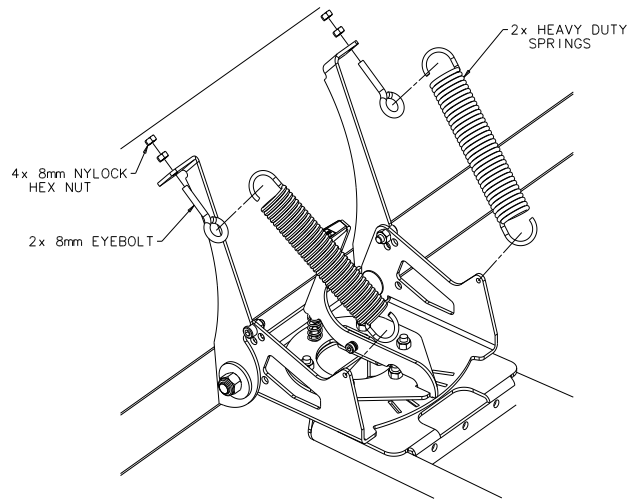

Figure 4 Assemble Plow Springs
5. Assemble the plow springs as shown in figure 4. Slide a 8mm dia eyebolt up through the small hole located on the center bent flange on the plow blade. Terminate the eyebolt with a 8mm dia nut. Hook the heavy-duty plow spring onto the rear of the side flange of the plow base, and to the eyelet of the eyebolt. Tighten the 8mm nut until there is tension on the spring (i.e.; it is difficult to remove the spring from the eyebolt). Once the desired tension is determined, terminate the eyebolt with a second 8mm dia nut and tighten it against the first 8mm dia nut. If installed correctly, the nuts should not be able to rotate off the end of the eyebolt.